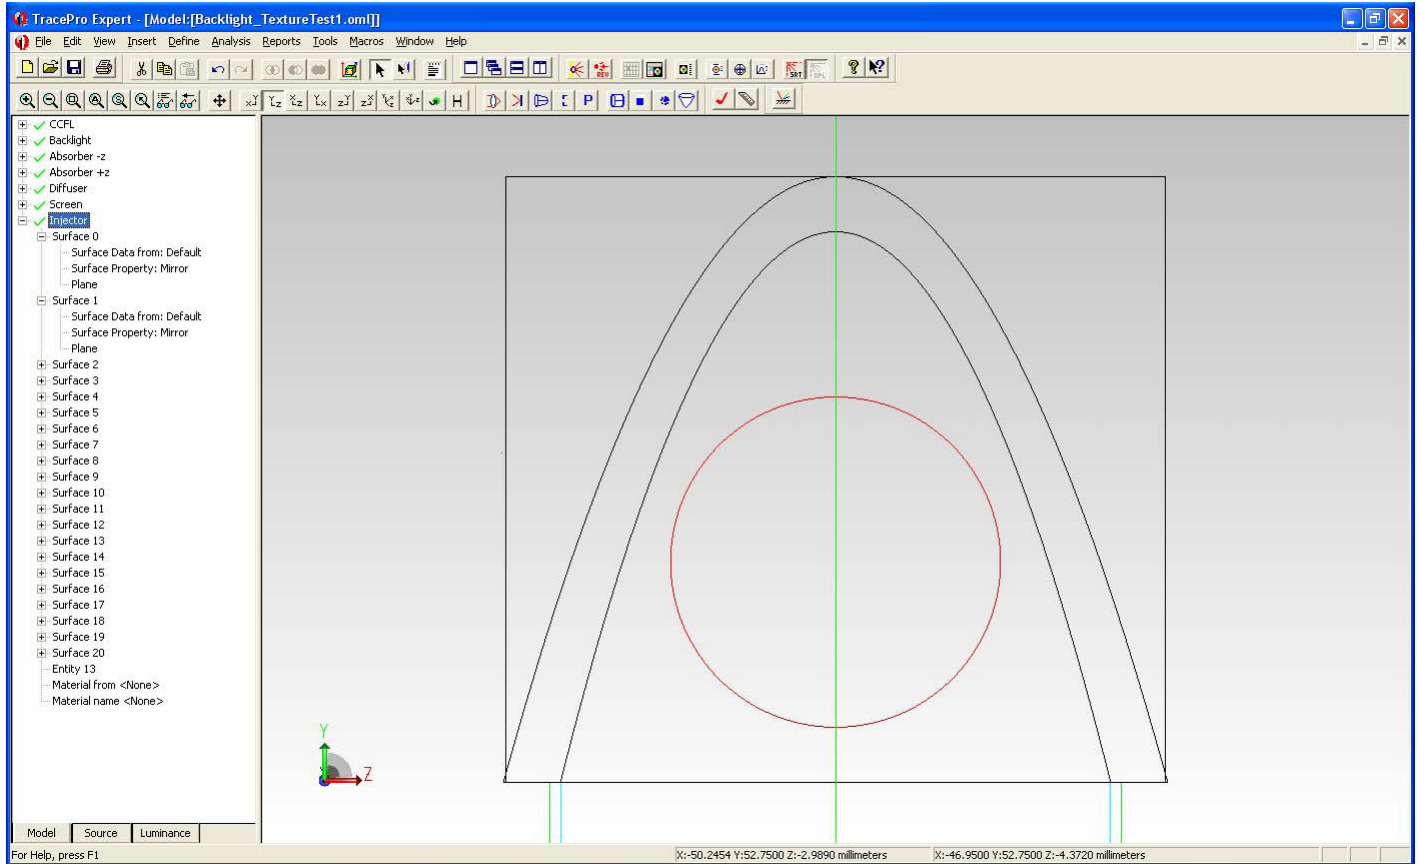

Figure 8. System Tree examples for the surfaces of the injector.
17. As per Fig. 8, inspect the System Tree such that the properties for Injector are as shown (Note: Fig. 8 also shows all of the other objects that we will define in this section.)